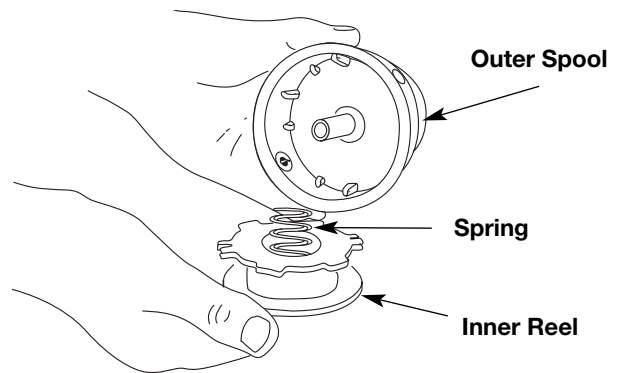

Fig. 17
2. Remove the inner reel from the outer spool (Fig. 17).
3. Remove spring from the inner reel (Fig. 17).
2. Remove the old inner reel from the outer spool (Fig. 17).
3. Remove the spring from the old inner reel (Fig. 17).